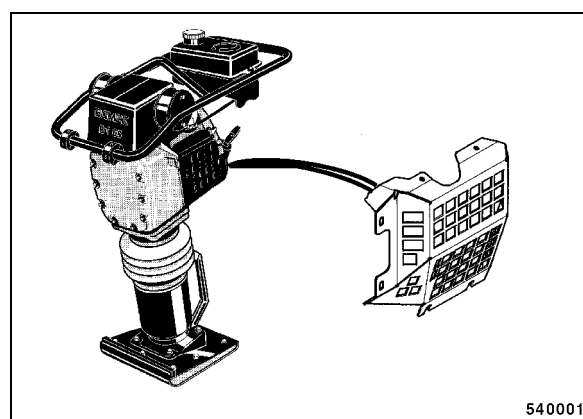

Fig. 61
- Remove the protection grid on the left hand side of the engine (Fig. 61).